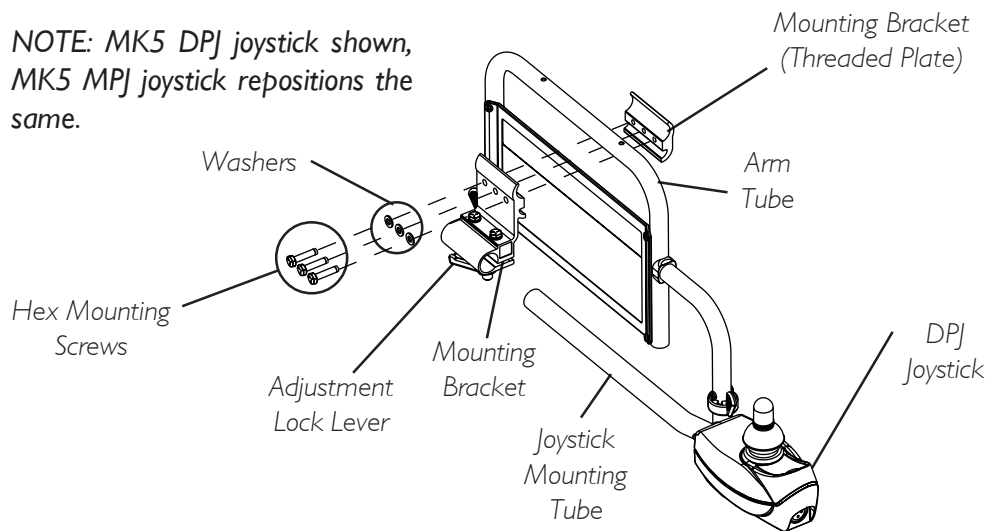

FIGURE 2 - REPOSITIONING JOYSTICK
REPOSITIONING JOYSTICK (FIGURE 2)
3. Remove the three (3) hex screws that secure the both halves of the mounting bracket to the arm tube.
4. Reposition mounting bracket on opposite arm tube ensuring the threaded plate of the mounting bracket is on the inside of the arm tube as shown in FIGURE 2.